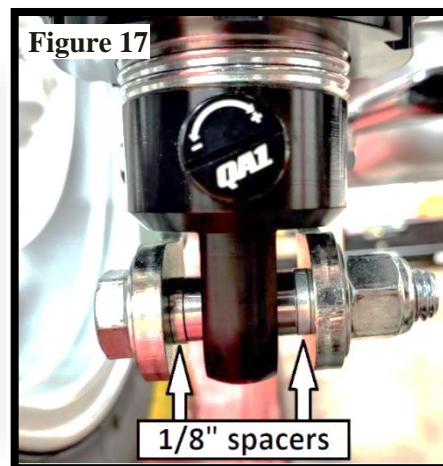

**Figure 16**
23. Install the left and right shock mount onto each axle mount using 5/8" x 5.5" hardware. **(Figure 16)** Torque to 90 lb. ft. (1/2" hardware will be used to install the coil-over shocks to the "L" brackets)
24. Install the left and right specific "L" shaped brackets onto the outside of each axle brackets so that the "L" brackets curve inward to the shock mount. **(Figure 16)** The "L" shaped brackets can be mounted on multiple holes of the axle bracket to adjust the vehicle ride height without adjusting the shocks. QA1 recommends using any height that the "L" bracket can be mounted with two bolts per bracket and with (minimum) one vacant hole in between the mounting bolts.